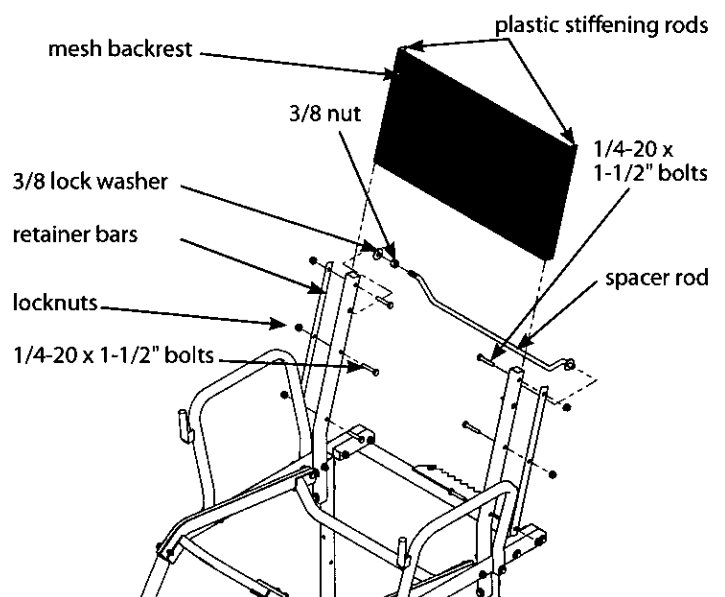

Figure 10
14. Attach the mesh backrest (360021) and the (2) retaining bars (410081) to the backrest mounts using (6) provided 1/4-20 x 1-1/2" bolts and locknuts. **SEE FIGURE 10.** The mesh backrest must wrap around the front side of backrest mounts and the plastic stiffening rod located in the sewn sleeve on each side of the backrest **MUST** be positioned behind the backrest retainer bars to act as a stop and prevent the backrest from pulling out during use. All bolts **MUST** go through the backrest retainer bars, the holes provided in the backrest and the backrest mounts. **SEE FIGURE 10.** Temporary removal of the backrest mount tube from the rest of the assembled ladder top may be necessary to attach the mesh backrest. If this is needed, re-attach backrest mount tubes with mesh backrest to the ladder top assembly.
15. Thread the non-locking 3/8-16 nut onto the threaded end of spacer rod all the way to the bottom of threads and slide 3/8" lock washer on. Insert the threaded end of spacer rod through either backrest mount tube far enough to be able to insert the opposite end of spacer rod (end with welded-on washer) into opposite backrest mount tube. Thread 3/8-16 nut back against mount tube. Using a 9/16" wrench, tighten nut until mesh backrest becomes taut. **SEE FIGURE 10. You must now tighten all nut and bolt assemblies. Be sure not to over tighten or crush tubing when tightening!**